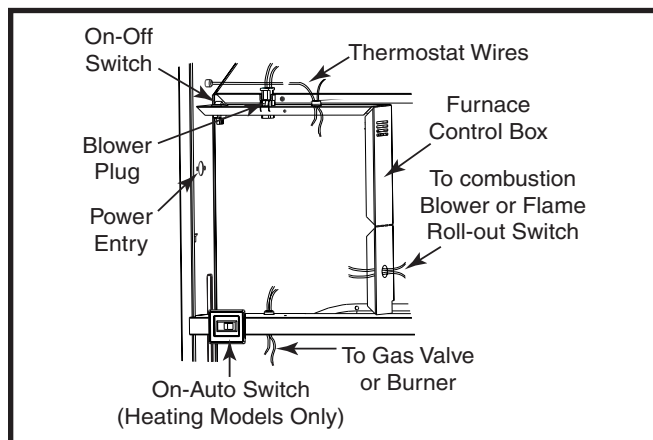

Figure 24. Control Panel (All Models)
2. Route wires (115 VAC) through the strain relief on the left side of the furnace control box. See Figure 24 \(page 12\).